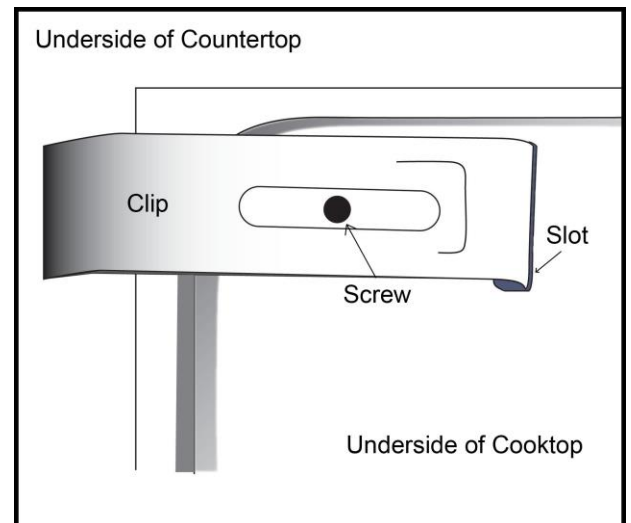

Figure 12
- 5) Secure cooktop from underneath with the supplied clips and screws (see Figure 12).